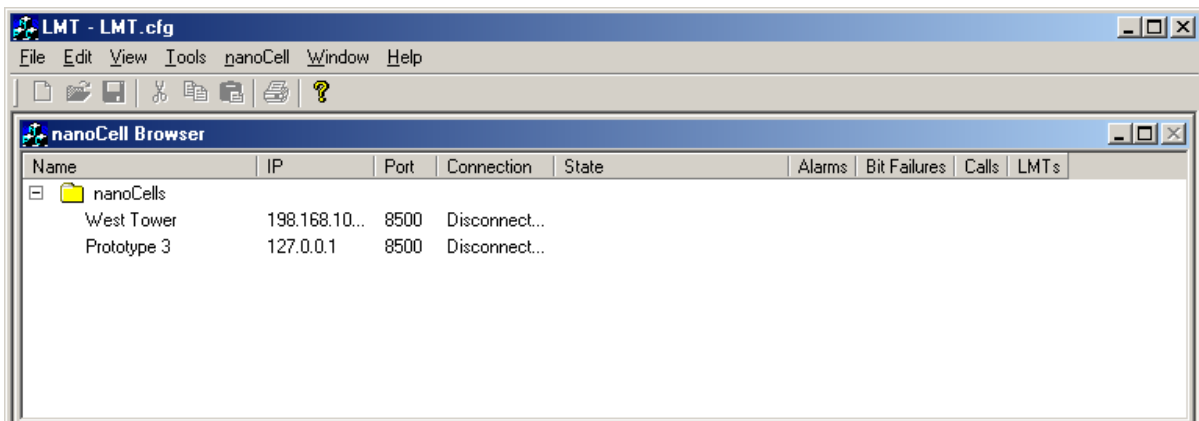

Figure 12. LMT Opening Screen
- The LMT software will launch and will display the screen as shown in Figure 12.